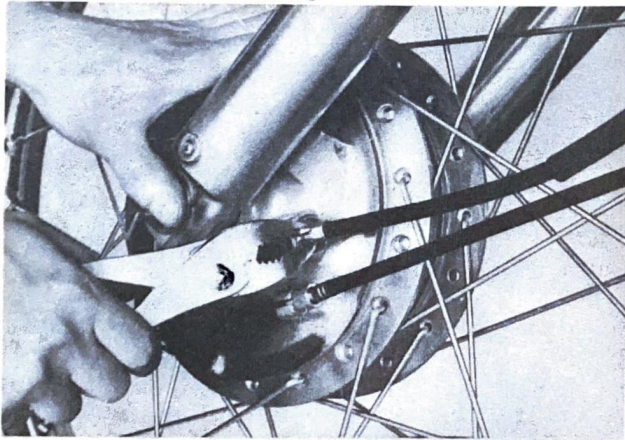

Fig. 15
b. After setting the meter cable end correctly in the gear unit, fit the circlip (attached to the cable) in the groove around the wheel hub. (Fig. 15)